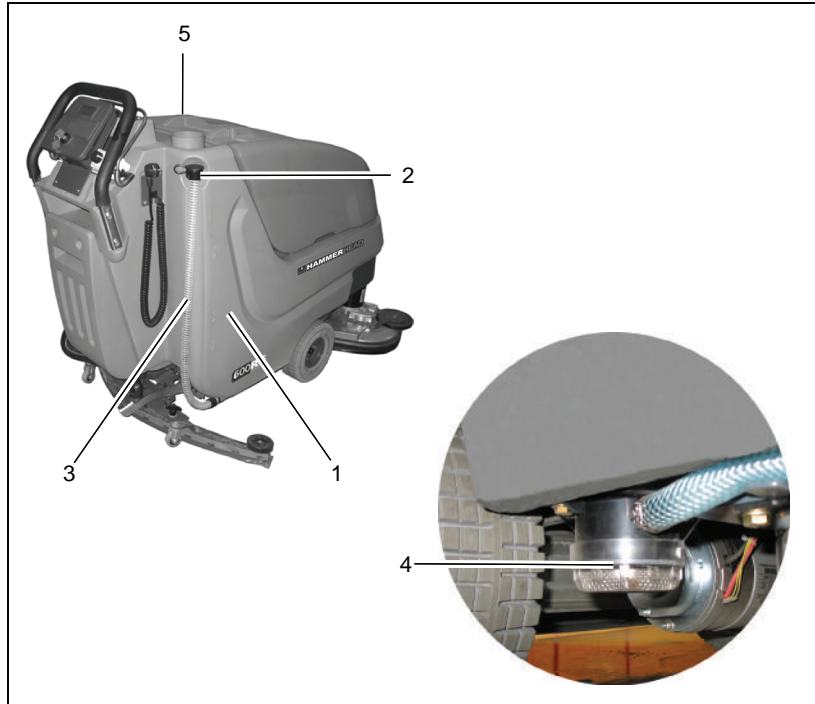

Fig.8
Fill solution tank (Fig. 8/1) before work or as required. Park vehicle on level ground. Open tank lid (Fig. 8/5) and fill tank up to the maximum (1/1 marker) (Fig. 8/2).
Alternatively, filling of the machine via quick coupling (Fig. 8/6) is available. Before doing so, connect the filling hose of the dosage unit and the quick coupling. The floater valve automatically closes after the maximum filling level has been attained.
Park vehicle such that the fill level hose (Fig. 8/3) is located above the drain aperture in the floor. Take fill level hose from holder and remove lid.
Check solution filter (Fig. 8/4) at weekly intervals and clean or replace if required.
- 1. Empty solution tank (Fig. 8/1), see paragraph 5.5.2.